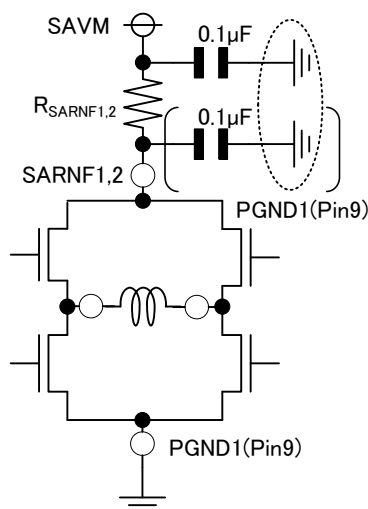

Figure 6. Position of Ceramic Capacitors
- (2) Provide a low ESR electrolytic capacitor between the power terminal and the ground terminal of the driver to achieve strong stabilization. Provide a ceramic capacitor with good high frequency property next to the IC. Also provide a ceramic capacitor with good high frequency property between SARNF1, 2 and PGND1. (Figure 6.) This can reduce power supply ripple due to PWM switching.